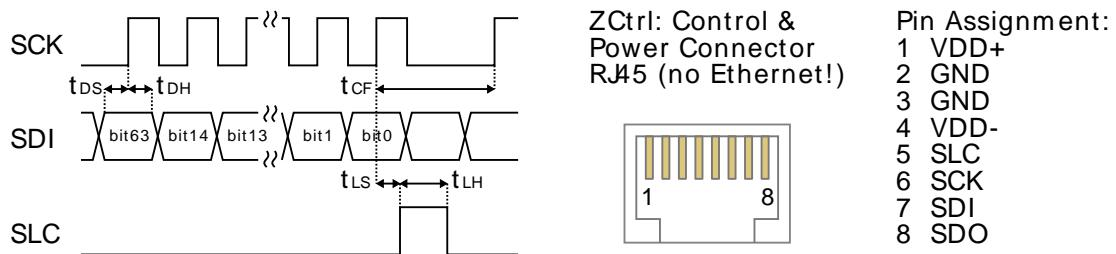

Figure 11.2. Digital control timing
- **Digital control:** SDI digital input signal to control the preamplifier settings, SDO output signal for device detection (details of function not disclosed to users), SCK clock signal, and SLC latch signal. SDI, SCK and SLC are used to program the shift registers on the amplifier and thereby adjust the correct settings. The setting bits are given in Table 11.4. The timing diagram of the digital interface is given in Figure 11.2. The MSB of the register settings is shifted in first.